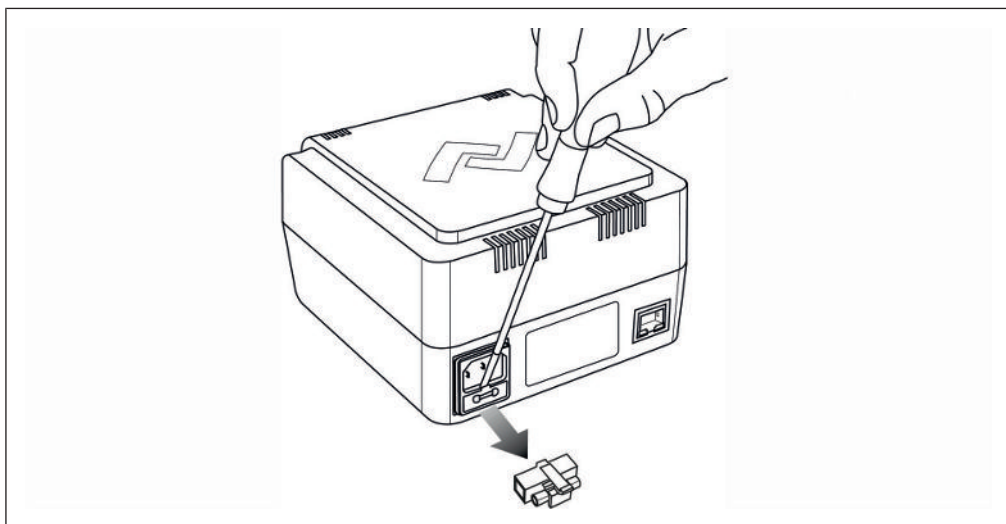

Fig. 23: Replacing the fuse
- a) Carefully pry open the fuse compartment under the mains connection, e.g. with a flat-blade screwdriver (see Fig. 23).